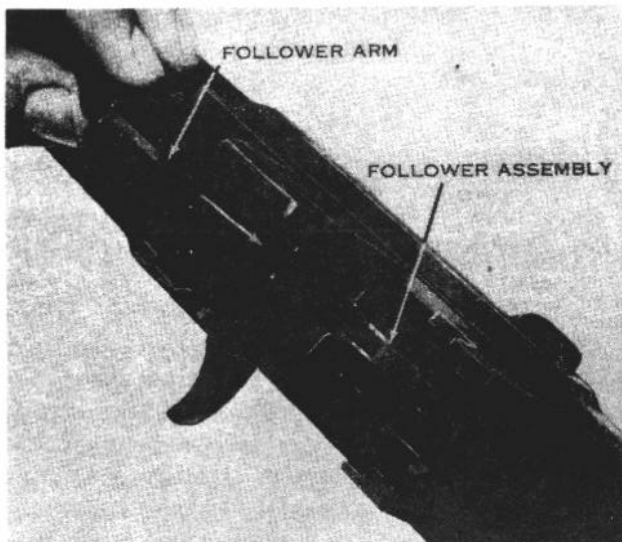

Figure 15. Replacing the follower arm.
h. Replace the follower arm by passing its rear studs through the bullet guide and inserting them into the guide grooves on the follower (fig. 15). Allow the wings of the follower arm to rest astride the toe of the bullet guide. Aline the holes in the operating rod catch assembly, follower arm, and bullet guide with those in the receiver and replace the follower arm pin from the rear side.